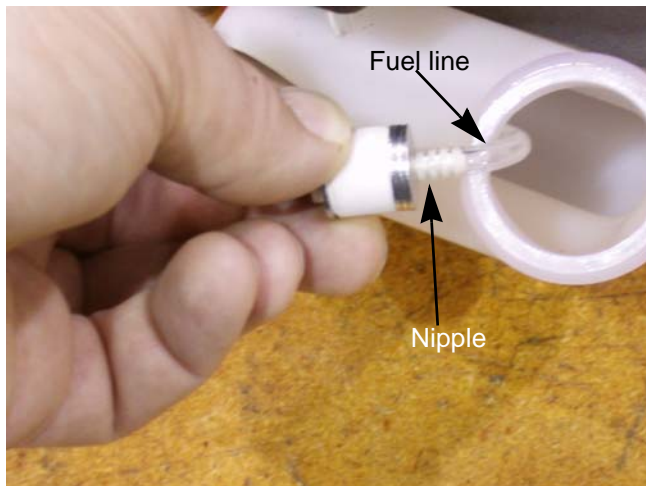

Figure 2.12
4. Carefully remove the fuel line from the barb on the fuel filter. Clean or discard the old fuel filter. See Figure 2.12.